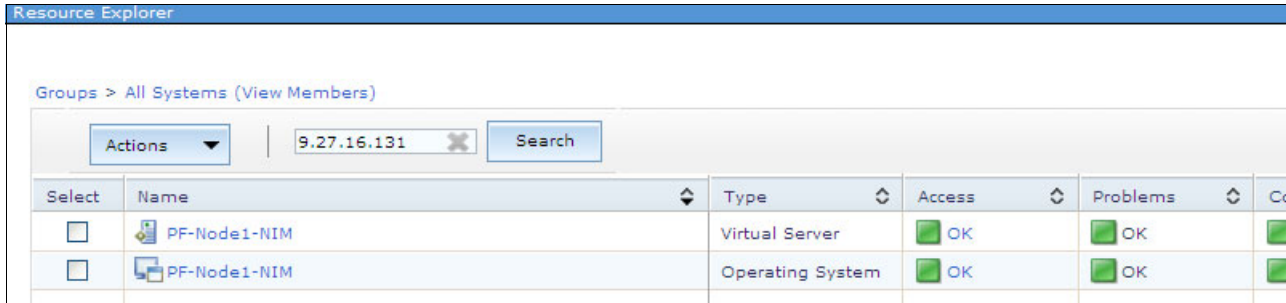

Figure 10-56 Checking the NIM server status in the Resource Explorer menu
10. The server object is displayed for the NIM server. Run the Inventory task against both objects, as shown in Figure 10-56.